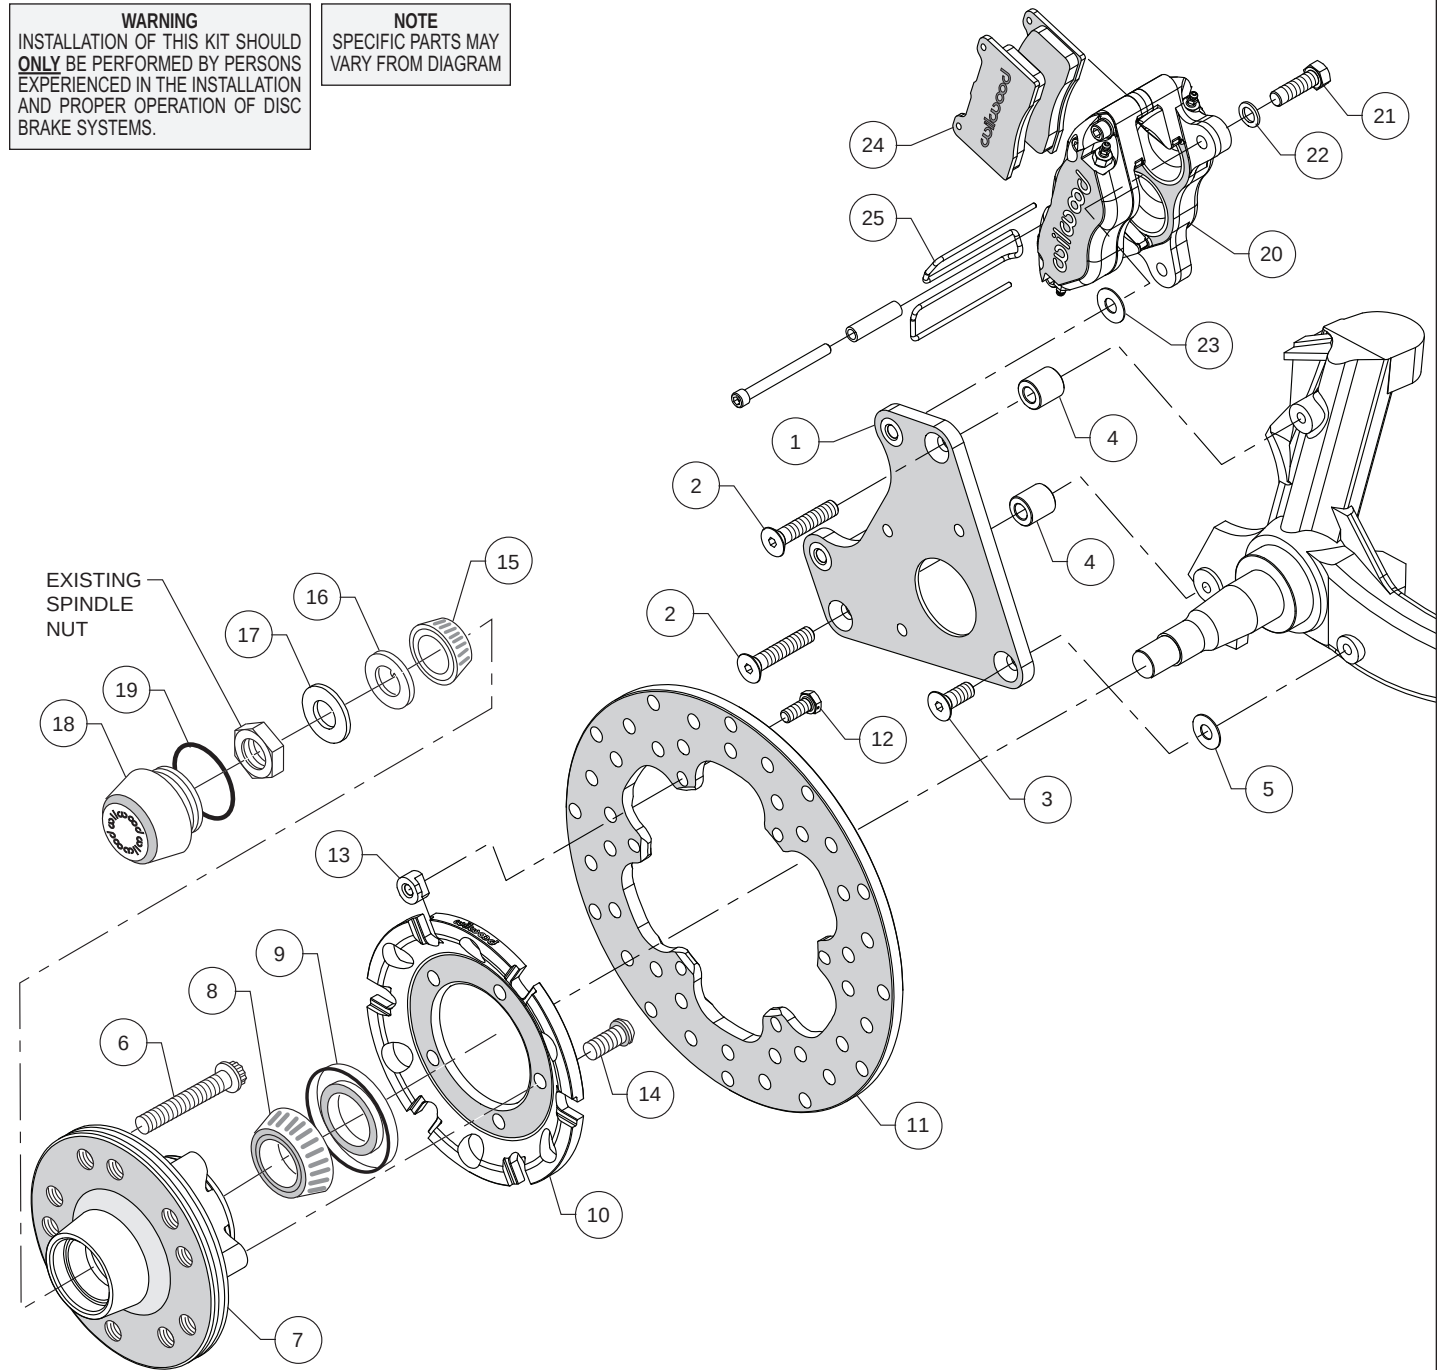
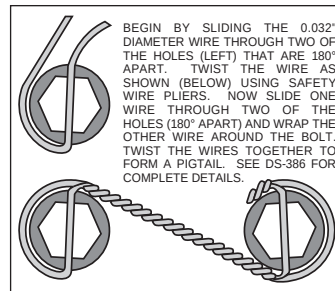
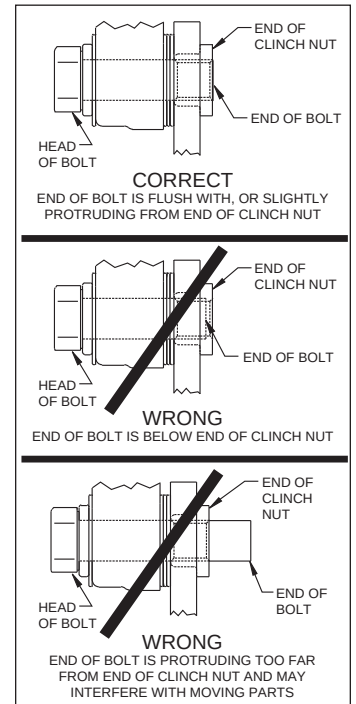

Figure 2. Typical Installation Configuration
Figure 4. Safety Wire Diagram
Figure 5. Clinch Nut Engagement Diagram
Assembly Instructions (numbers in parenthesis refer to the parts list, on the preceding page and Figure 2): **CAUTION:** All mounting bolts must fully engage clinch nuts. Be sure to check that all bolts are either flush or protruding through flanged side of clinch nut after shimming, Figure 5.
- Orient the caliper mounting bracket (1) as shown in Figure 2 and Photo 1. Attach using bolts (2), bolt (3), spacers (4) and washer (5), Figure 2. Temporarily tighten the mounting bolts. Ensure that the flanged heads of the clinch nuts in the bracket are facing outboard, Photo 1. **NOTE:** The bracket must fit squarely against the mounting points on the spindle. Inspect for interference from casting irregularities, machining ridges, burrs, etc. Remove bolts one at a time, apply red *Loctite*® 271 to threads and torque bolts (2 and 3) to 30 ft-lbs.
- Install wheel studs (6) into the hub (7), Photo 2. Torque to 77 ft-lb. **NOTE:** There are two five lug patterns in the hub (5 x 4.50 and 5 x 4.75). Ensure the correct hub stud pattern is being used to fit the wheel application.
- Pack the large inner bearing cone (8) with high temperature disc brake bearing grease (available from your local auto parts store) and install into the backside of the hub (7), Photo 3.
- Install the grease seal (9) by pressing into the backside of the hub (7), flush with the end of the hub, Photo 3.
- Orient the rotor (11) and the rotor adapter (10) as shown in Figure 2 and Photo 4. Attach the rotor to the adapter using bolts (12) and T-nuts (13). Using an alternating sequence, apply red *Loctite*® 271 to the threads, and torque to 120 in-lb. Safety wire bolts using standard 0.032 inch diameter stainless steel safety wire as shown in Figure 4. Refer to Wilwood's data sheet DS-
- Mount the adapter/rotor assembly (10 and 11) to the hub (7) using bolts (14), as shown in Figure 2 and Photo 5. Using an alternating sequence, apply red *Loctite*® 271 to the threads, and torque to 45 ft-lb.
- Pack the small outer bearing cone (15) with high temperature disc brake bearing grease and install into hub (7). Slide the hub/rotor assembly onto the spindle. Secure using spindle washer (16) and OEM spindle nut, Photo 6. **NOTE:** Because of a tolerance variation among spindles, it may be necessary to install one or two shim washers (17) between the spindle washer (16) and the spindle nut if the spindle nut will not tighten down all the way. Adjust bearing per OEM specifications. Install saved OEM nut lock (if any) and a new cotter pin (not included).
- Screw dust cap (18) into hub (7), Photo 7. Friction created by the o-ring (19) on the dust cap keeps it from unscrewing. **NOTE:** The O.D. of the existing OEM spindle washer may be larger than the I.D. of the dust cap not allowing it to seat against the hub face. Therefore, use the spindle washer (16) supplied with the kit instead of the OEM washer.
- NOTE:** Please reference the caution statement at the beginning of the assembly instructions. Mount the caliper (20) onto the caliper mounting bracket (1) using bolts (21) and washers (22), as shown in Figure 2. Initially place one .035" thick shim (23) on each bolt between the caliper and the bracket, Photo 8. Temporarily tighten the mounting bolts and view the rotor (11) through the top opening of the caliper. The rotor should be centered in the caliper, Photo 9. If not, adjust by adding or subtracting shims (23) between the bracket and the caliper. Always use the same amount of shims on each of the two mounting bolts. **NOTE:** The end of each bolt must be flush with or slightly protruding from the head of the clinch nut, as shown in Figure 5. If necessary place spare shims (23) between washer (22) and caliper mounting ear to achieve the proper clinch nut engagement. Once the caliper alignment and clinch nut engagement are correct, remove the bolts one at a time, apply red *Loctite*® 271 to bolt threads, and torque to 40 ft-lb. For an added measure of security, the bolts may be safety wired using standard 0.032 inch diameter stainless steel safety wire as shown in Figure 4. Refer to Wilwood's data sheet DS-386 (available at www.wilwood.com/Pdf/DataSheets/ds386.pdf) for complete safety wire installation instructions.
- Install the disc brake pads (24) into the caliper, with the friction material facing the rotor (11), Photo 10, and secure in place using pad retainer clip (25), Photo 11.